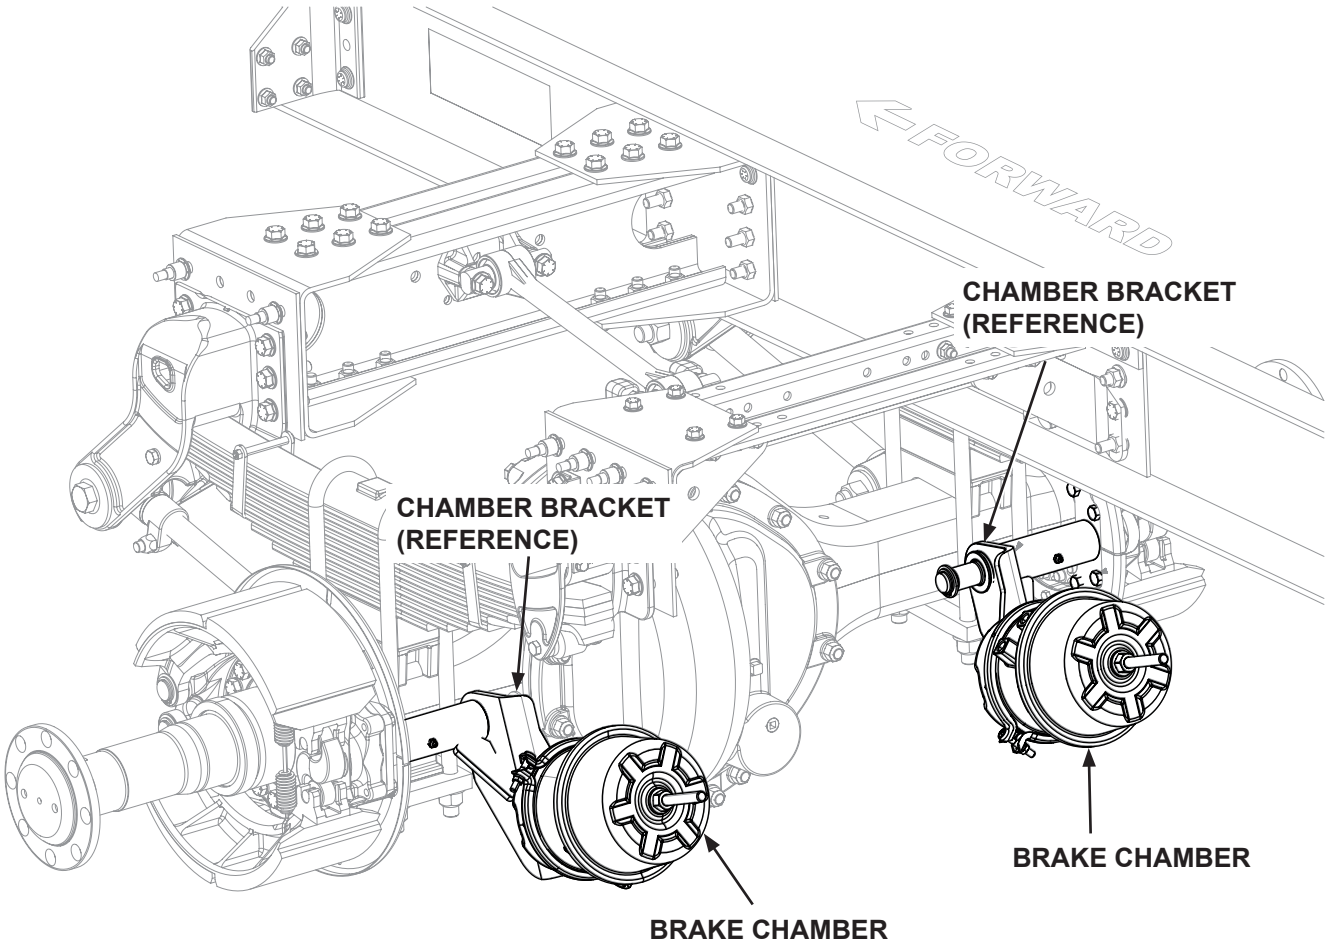

Figure 1
2. Locate the brake chambers at the rear of the vehicle (see *Figure 1*).
6. Repeat steps 4 through 10 for the right-hand side of the vehicle utilizing the new brake chamber (A7630031-001) (see *Figure 1*).
D. Measure and record the length of clevis to be used. This measurement should be taken from the center of the clevis pin hole, to the bottom of the yoke assembly (See Figure 1).
- G. Install the clevis onto the push-rod and secure the jam nut (33–90 lb. ft.). Connect the clevis to the brake adjuster using the clevis pin and cotter pins (See Figure 1). Uncage the spring brake.